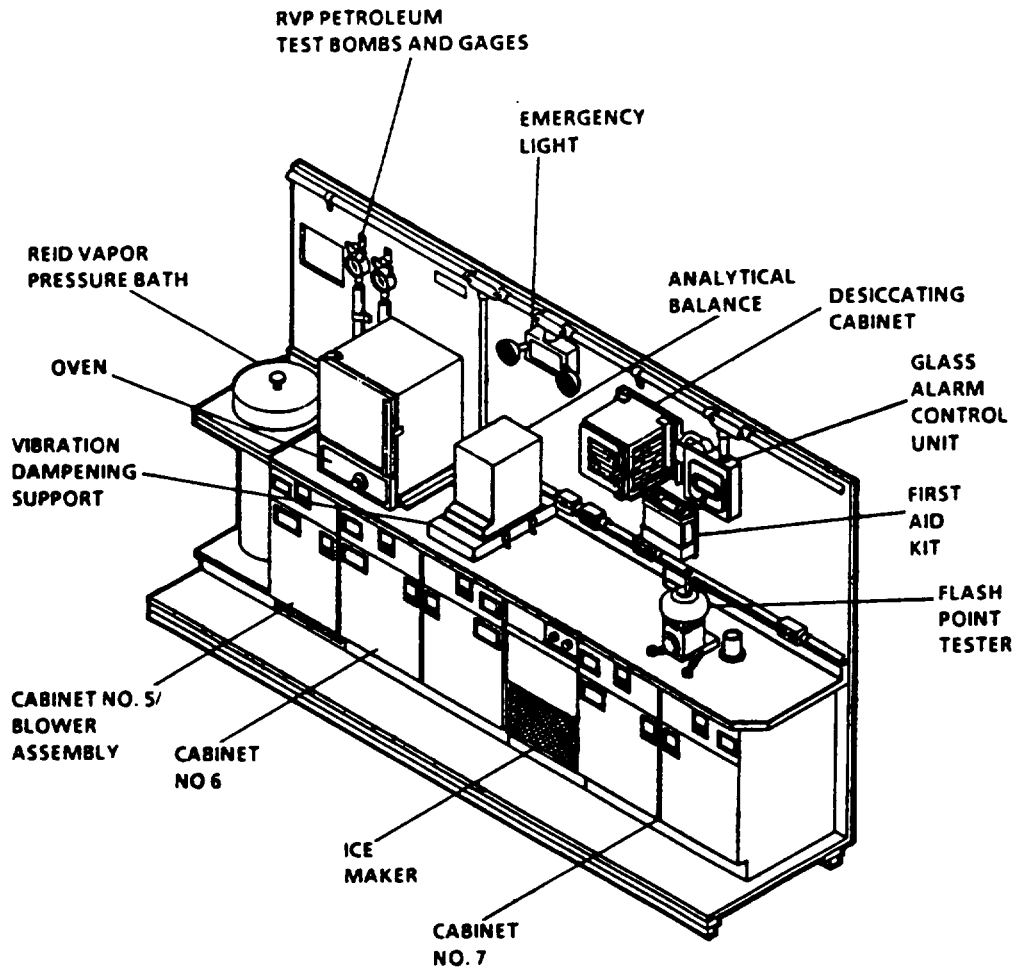

Figure 2-7. Interior - Curbside Wall Controls and Indicators
- f. Interior - Curbside Wall Controls and Indicators. Figure 2-7 and Table 2-7 list the laboratory's controls and indicators located on the curbside of the laboratory interior.